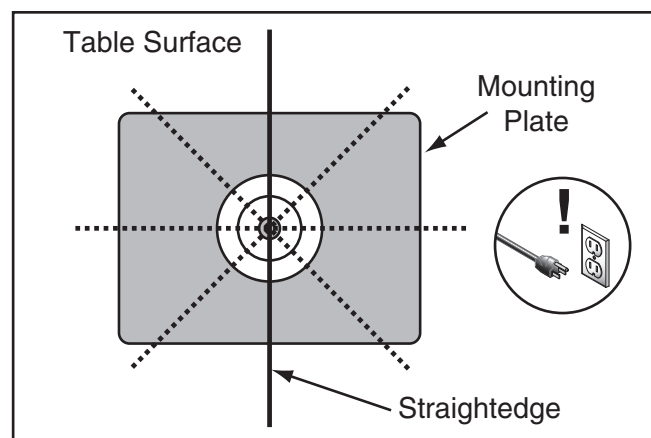

Figure 41. Pattern for aligning mounting plate to table.
3. Remove (2) Phillips head screws that secure mounting plate to table.
4. Lay straightedge across mounting plate, table insert, and table surfaces in pattern shown in **Figure 41**.